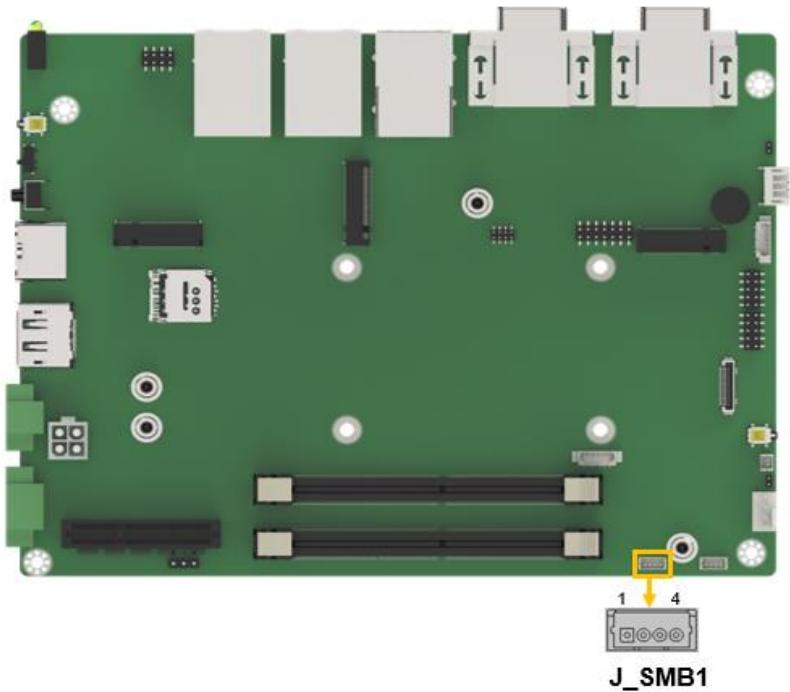

Figure 4-17: SMBus Connector Location
- CN Location: See Figure 4-17